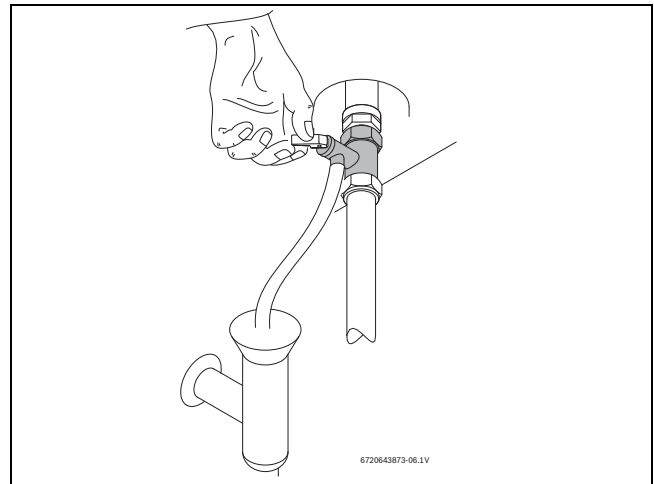

Fig. 11 Manual activation of the safety valve
- ▶ Open the safety valve (Fig. 11).
- ▶ Manually open the safety valve at least once a month (Fig. 11).